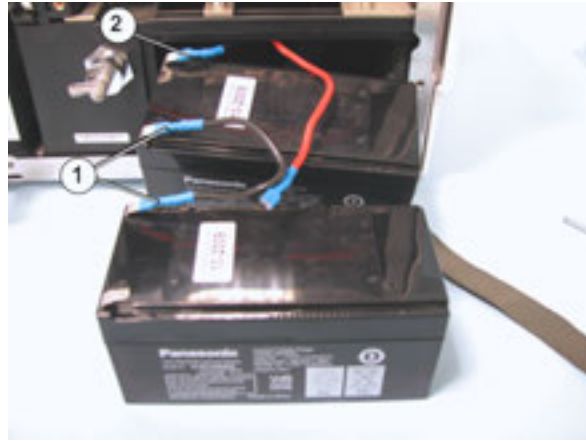

Fig. 100 Rear of device: Cable connectors (3x)
- 5 Pull slightly on the cable link (Fig. 100/1) to bring the second battery out of the compartment.
- 6 Push the cable connectors (Fig. 100/1) off of the battery lugs.
- 7 Disconnect the cable connector (Fig. 100/2) from the battery lug.
- 2 Push the cable connectors (Fig. 100/1) firmly onto the lugs of the two batteries, as shown in Fig. 100.
- 3 Push the cable connector (Fig. 100/2) (--) firmly onto the battery lug.